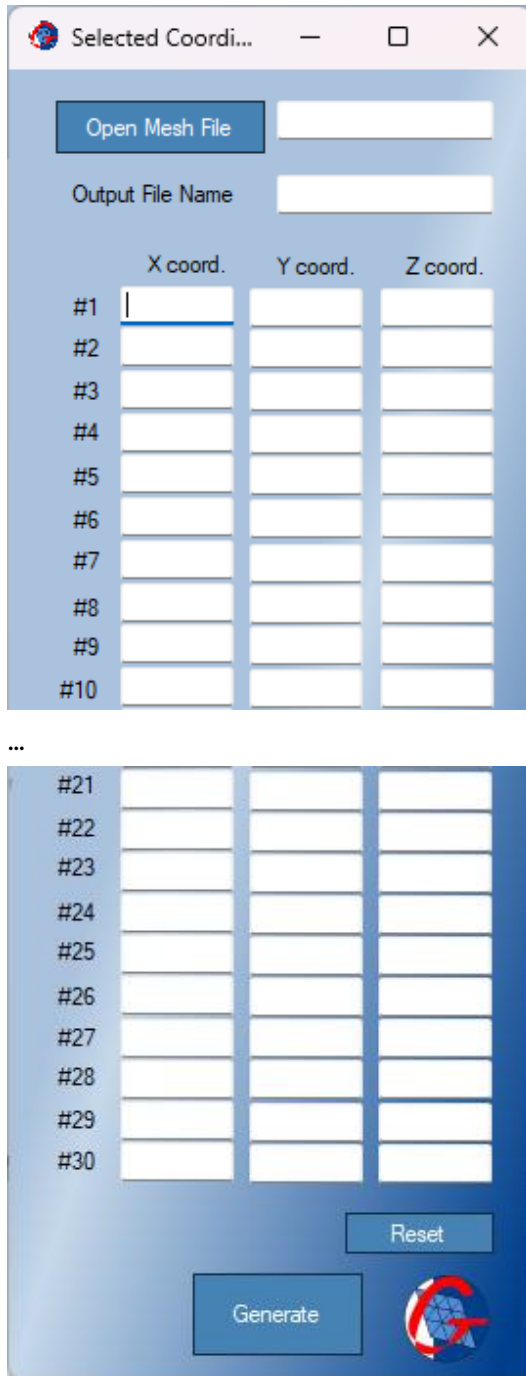

Figure 20: File Menu – Selected Coordinates dialog window.
- **Selected Coordinates:** This option shows the dialog window of Figure 20, for creating a file with selected XYZ coordinates. Coordinates are selected using the render area (Section 7.2).